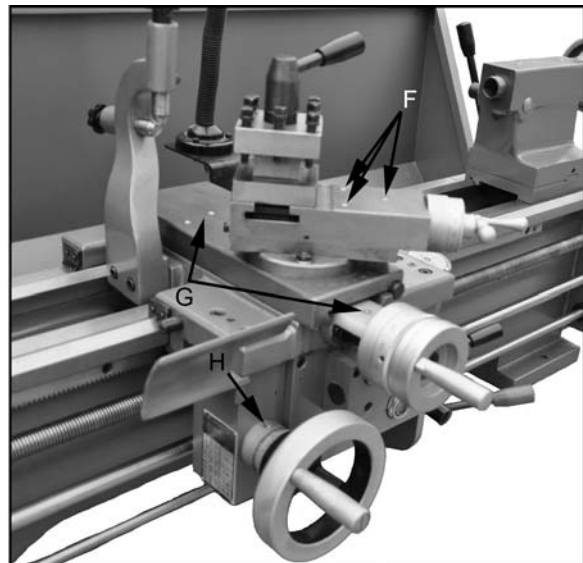

Figure 9
9. **Compound Rest** - Lubricate three ball oilers (F, Fig. 9) once daily with Mobil DTE® Oil Heavy Medium.
10. **Cross Slide** - lubricate four ball oilers (G, Fig. 9) once daily with Mobil DTE® Oil Heavy Medium.
11. **Longitudinal Feed Handwheel** - Lubricate ball oiler (H, Fig. 9) once daily with Mobil DTE® Oil Heavy Medium.